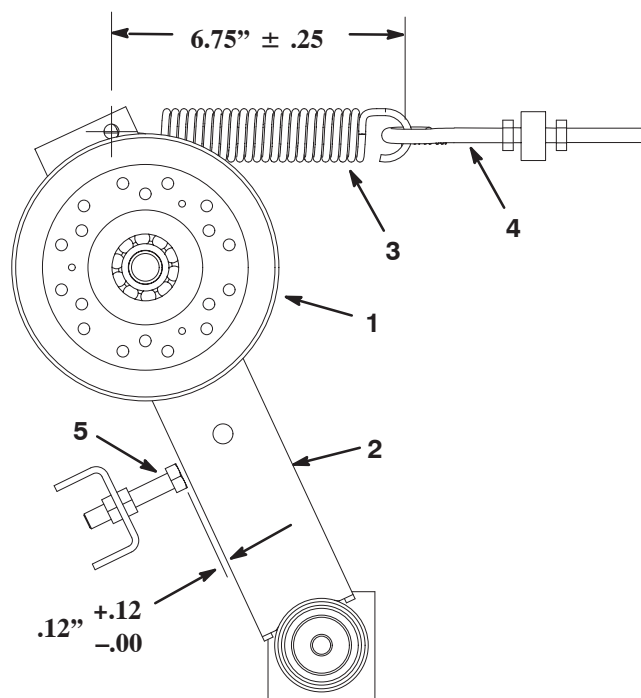

Figure 73
14. Tension the front idler pulleys (Fig. 73) as follows: